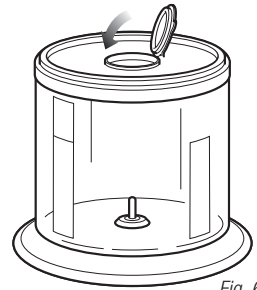

Fig. 6
- 14 Place the storage lid onto the top of the processing bowl and close the flap to store. **(Fig. 6)**